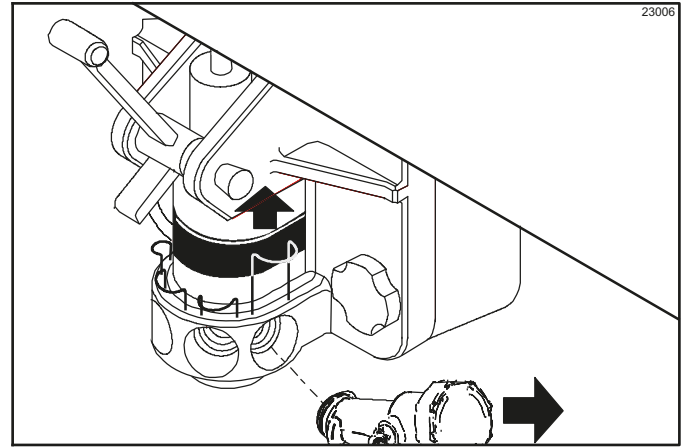

Figure 6-58
1. Disconnect the syrup valve from the freezer door. Raise the syrup valve retainer and pull the valve straight out. (See Figure 6-58.)